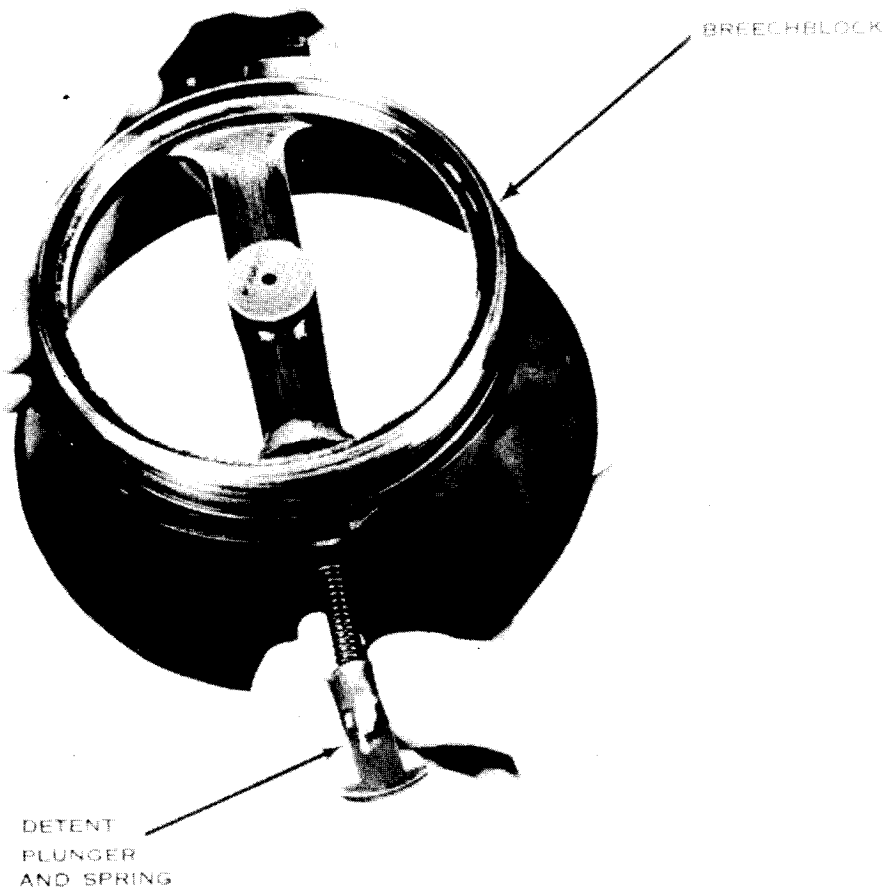

Figure 13. Removing the detent plunger and spring.
- (i) Remove detent plunger and spring (10, fig. 6 and fig. 13).